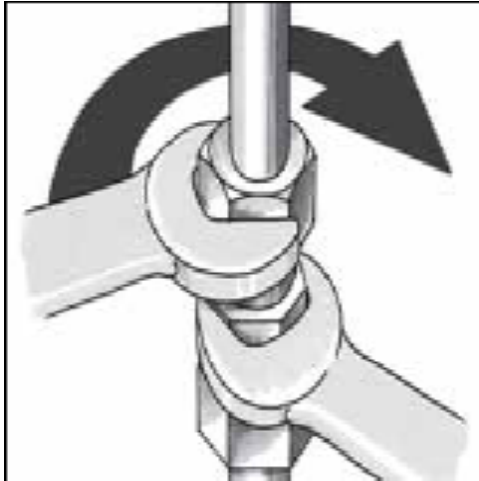

Figure 3
- 3.3 Screw the union nut tight by hand and then tighten it beyond this point using two standard open-end wrenches (Figure 3) while holding it in place